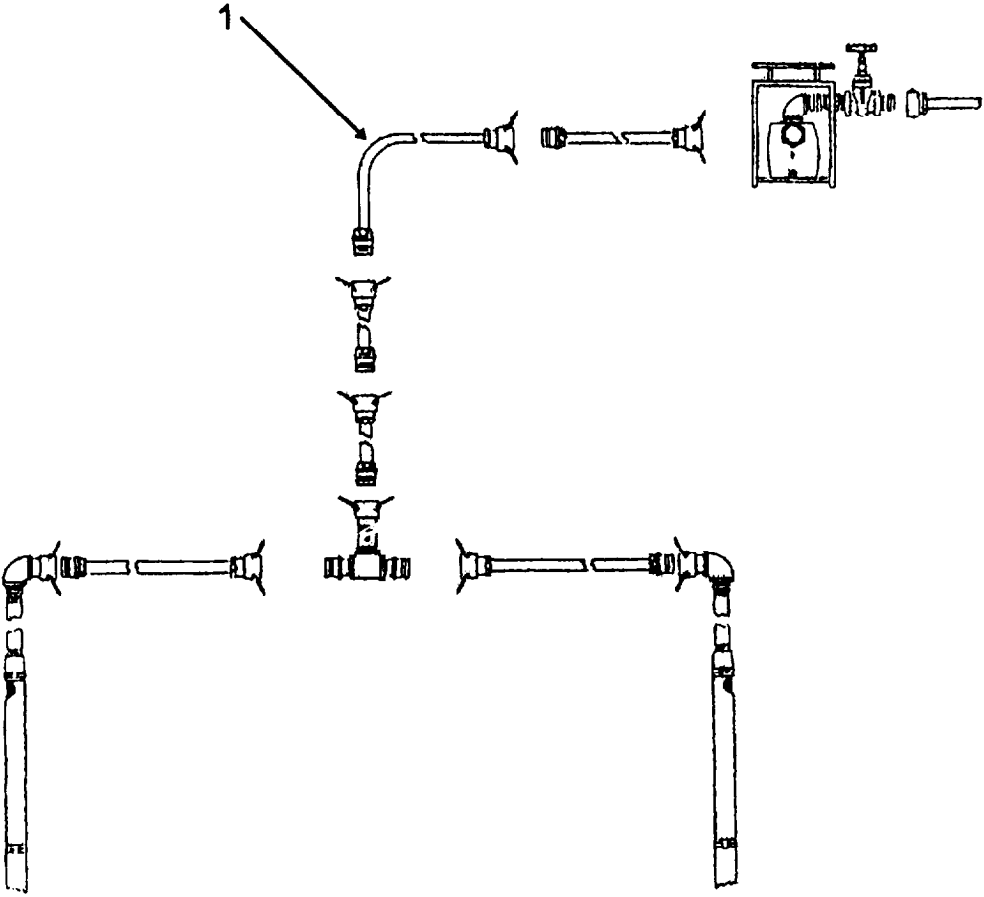

Figure 1-3a Accessory Items (Ocean Intake Structure)
OCEAN INTAKE STRUCTURE (1) Refer to figure 1-3a. (Models H-9518-1, H-9518-2, and H-9518-3). Utilizes self-jetting wellpoints to extract water from a variety of water sources, but especially from an ocean-type environment.